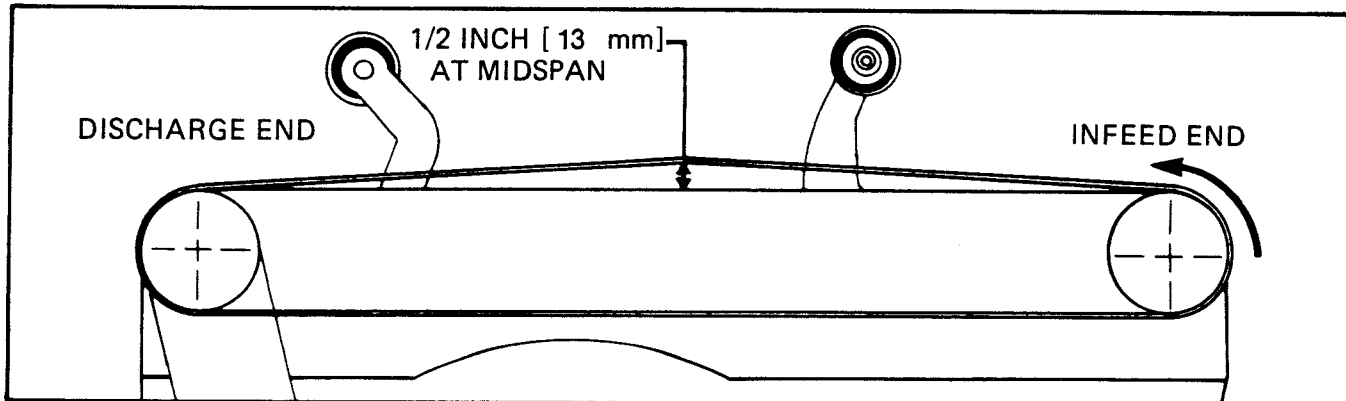

FIGURE 19B - BOX DRIVE BELT TENSION ADJUSTMENT
Step 1. Tension is obtained by uniform tightening of the adjustment screws so that a moderate pulling force of 7 to 8 lbs. [3.0 to 3.5 kg] applied at the midspan will deflect the belt 1/2 inch [13 mm]. Refer to Figure 19B.